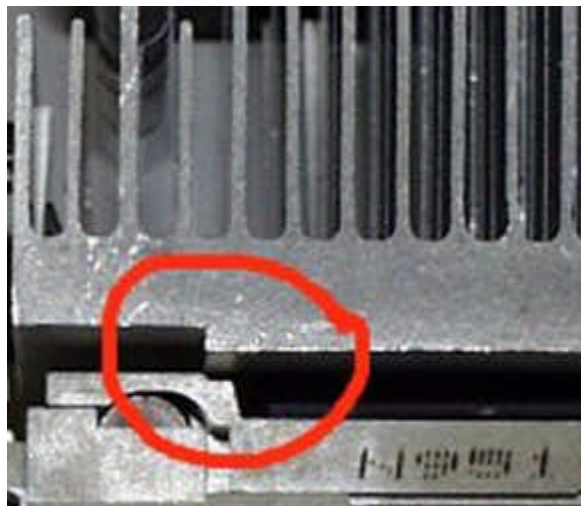

Figure 14. Make sure the Heatsink is Seated Properly on the Processor!
14. Figure 14 shows a **WRONG WAY** to position the heatsink. Notice how the lower area of the stepped portion of the aluminum heatsink is resting on the higher end of the socket rather than flat on the processor die. If the heatsink is not contacting the complete surface of the processor die, the heatsink is non-functional. This will cause **THE PROCESSOR TO OVERHEAT AND FAIL!** Always make sure the heatsink surface is not contacting any part of the socket.